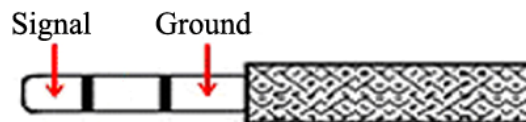

Fig.4. The polarity of jackplug of cable for external device connection.
3. If necessary with the help of a cable connect the “Output” (7) of AMT-07M with recording instrument (for example oscilloscope or analog-to-binary converter). Figure 4.